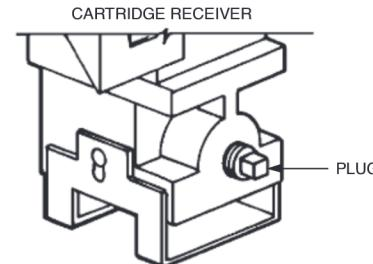

FIGURE 57
- Remove plug from cartridge receiver. See Figure 57.